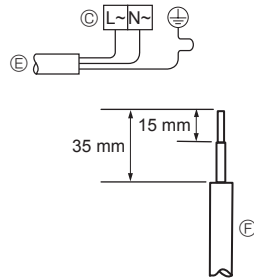
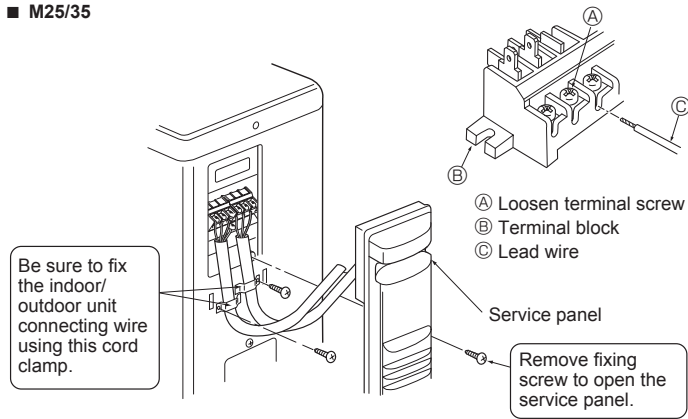
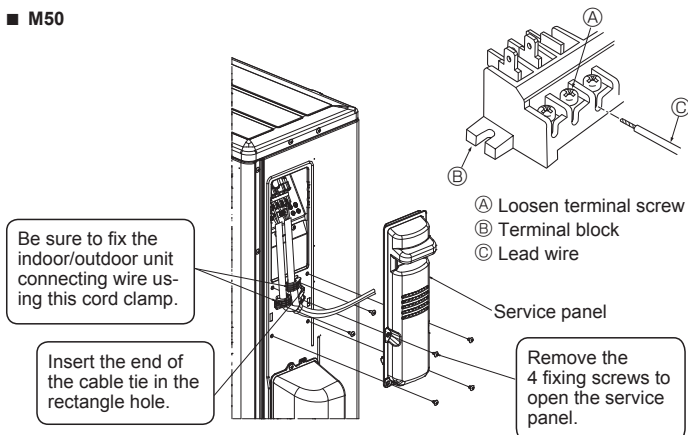
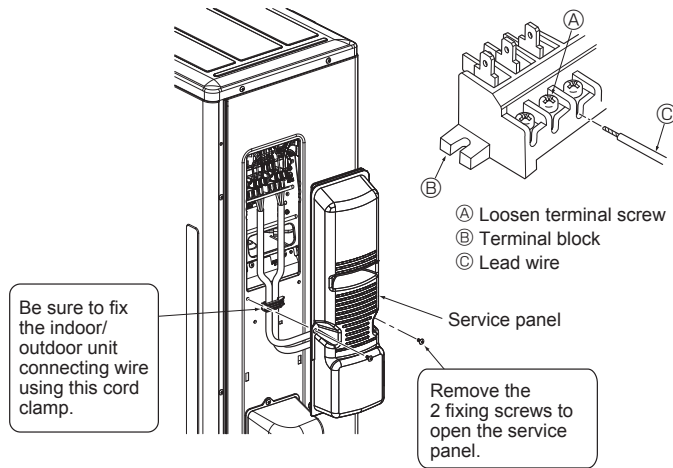

Fig. 6-2
Fig. 6-3
Fig. 6-4
Fig. 6-5
6.1. Outdoor unit (Fig. 6-1, Fig. 6-2, Fig. 6-3, Fig. 6-4, Fig. 6-5)
- ① Remove the service panel.
- ② Wire the cables referring to the Fig. 6-1, Fig. 6-2, Fig. 6-3, Fig. 6-4 and the Fig. 6-5.
- Perform wiring as shown in the diagram to the lower left. (Procure the cable locally) (Fig. 6-2)